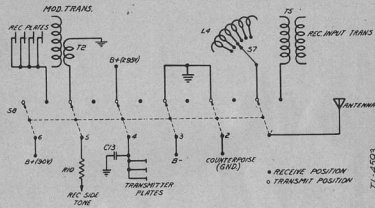

FIGURE 14.—REC-TRANS switch—functional diagram.
*g. Receive-transmit switch (fig. 14).—*The REC-TRANS switch S8 has six sections of two positions each. Switch S8 serves to switch the antenna and counterpoise from receiver to transmitter. In the transmit position, it opens the receiver plate circuit, completes the transmitter plate circuit, and connects the sidetone voltage to the receiver headphones.